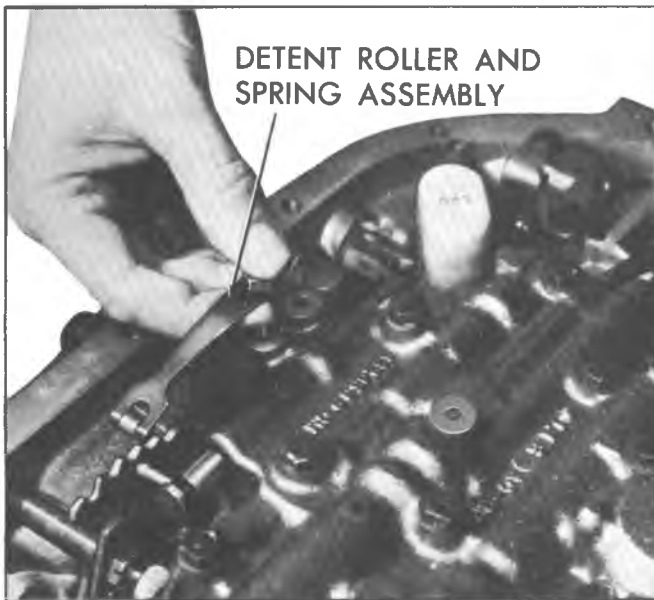

Fig. 9T--Removing Detent Roller and Spring Assembly
1. Remove control valve body attaching screws and detent roller and spring assembly (fig. 9T).